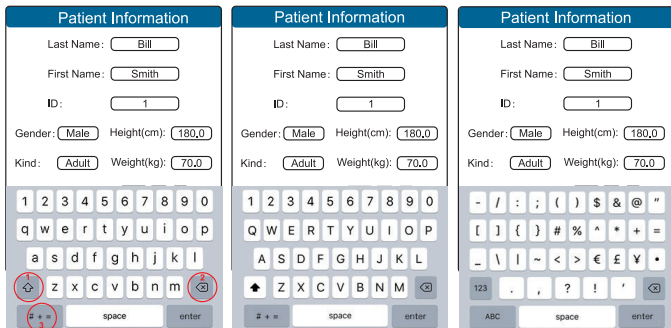

Fig.3.4
2. Rotate the knob to the shift icon (red cycle 1/ Fig. 3.4), then press to change case, rotate the knob to the delete icon (red cycle 2/ Fig. 3.4), then press to delete letter or number, rotate the knob to the symbol icon (red cycle 3/ Fig. 3.4), then press the symbol keyboard.